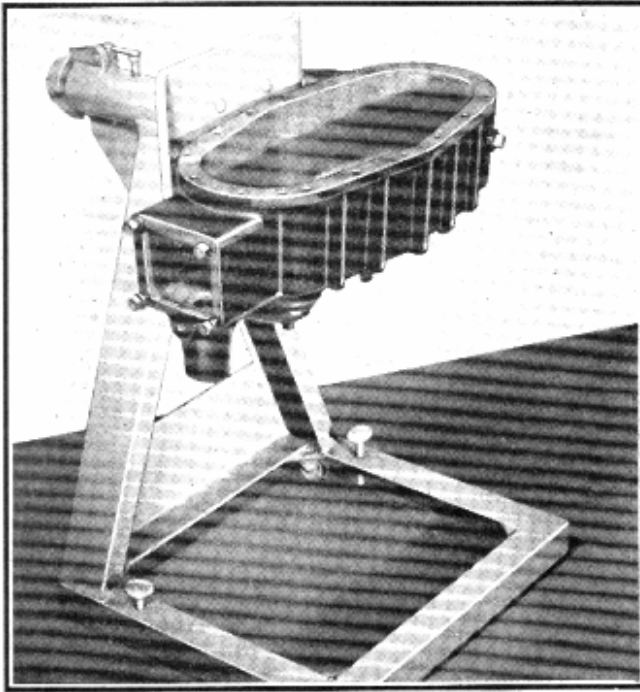

Fig. 13—Transfer Case Holding Fixture,
1. Install the complete transfer case in the special holding fixture J-1716, illustrated in Fig. 13. The use of this fixture facilitates disassembly and reassembly as it permits rotating the case to various positions.